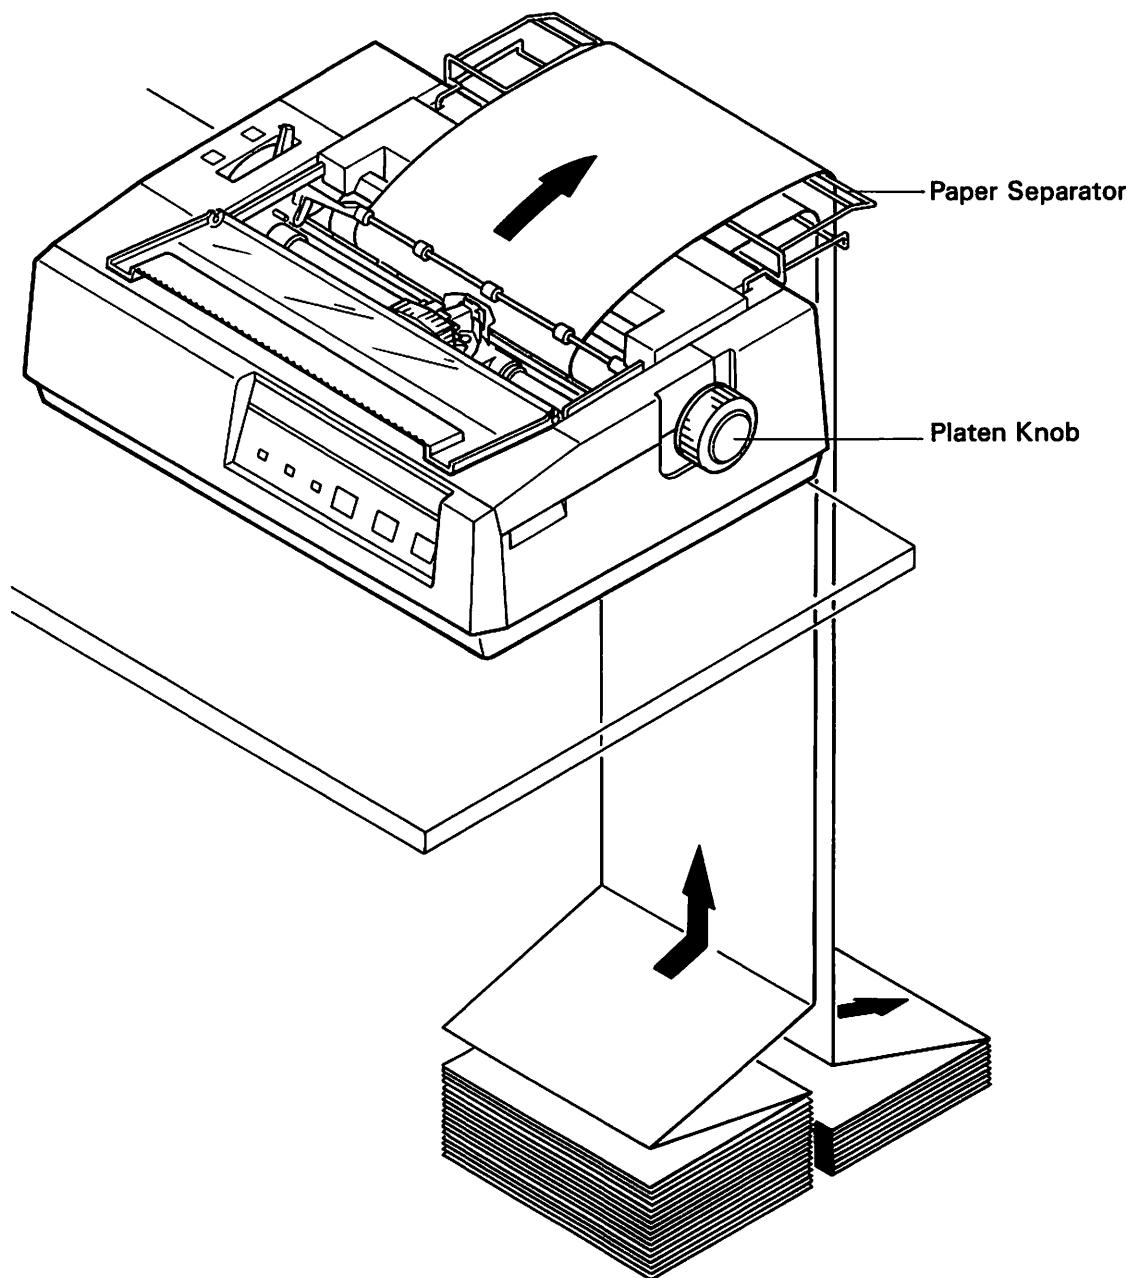

Fig. 2-10
2) Guide the paper through the paper separator, and into the printer (See Page 2-3, Paper Loading). When the paper end comes on the platen, draw it over the top of the paper separator, and drop it from the rear. (See Fig. 2-10)